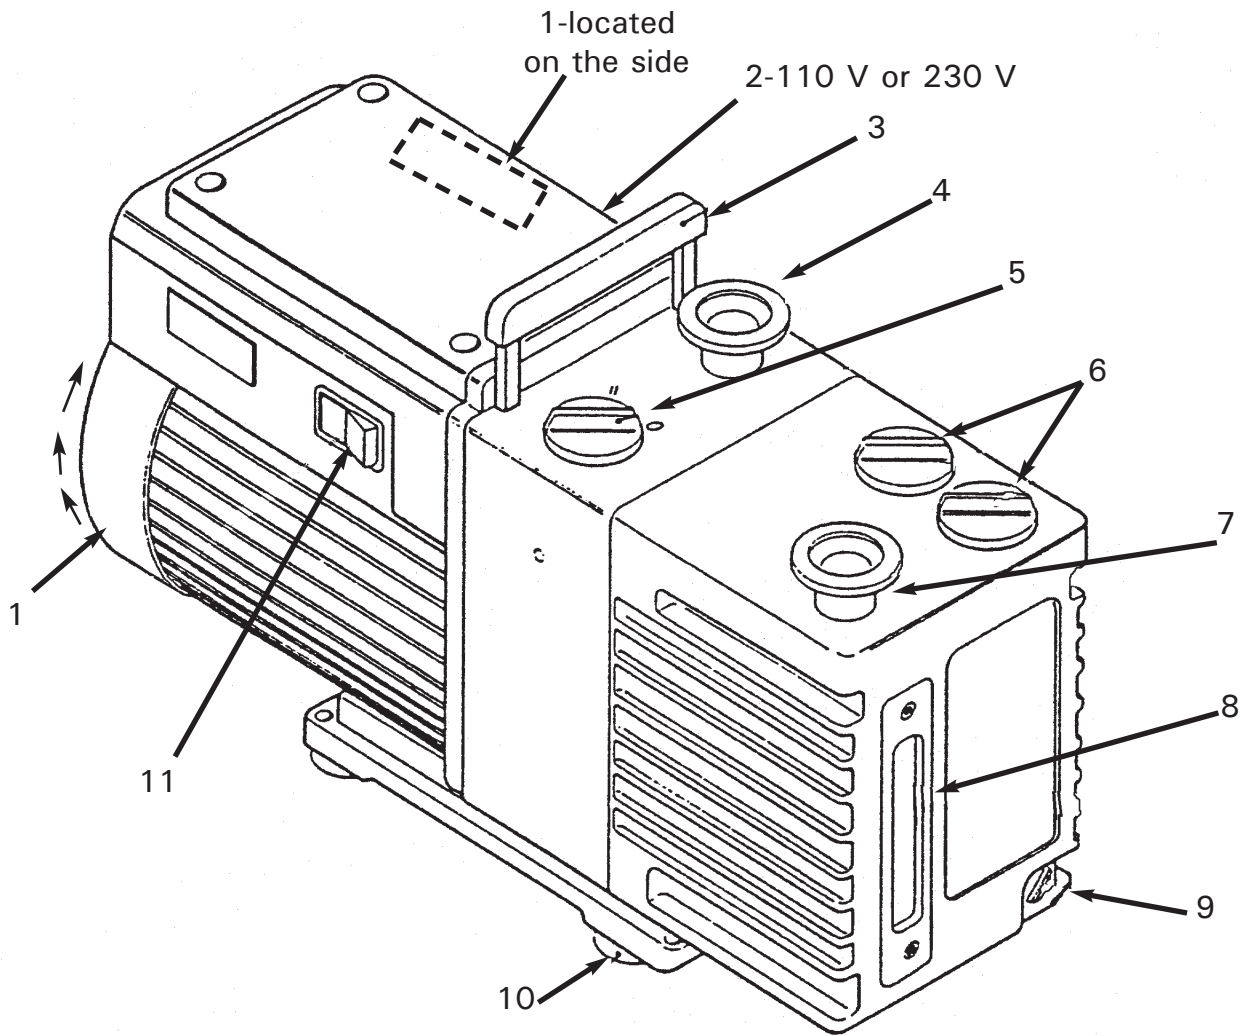

Figure 1 - The Rotary Value VLP Pump
The Thermo VLP Pump is shown in Figure 1. Refer to Figure 1 for item numbers in brackets in the following descriptions. The VLP pumps are two-stage, oil-sealed, rotary vane vacuum pumps. The pump has NW25 inlet (4) and outlet (7) ports, and a gas-ballast control (5). When the pump is switched off, an inlet-valve seals the inlet and prevents the suck-back of air and oil into the vacuum system.